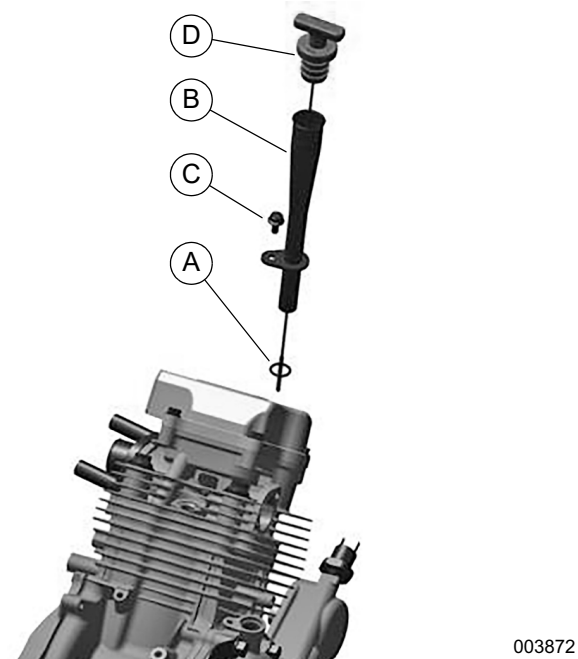

Figure 14-51. Install Oil Dipstick (HSB)
See Figure 14-51. Place o-ring (A) on dipstick tube (B). Apply a small amount of 5W-30 oil to o-ring.